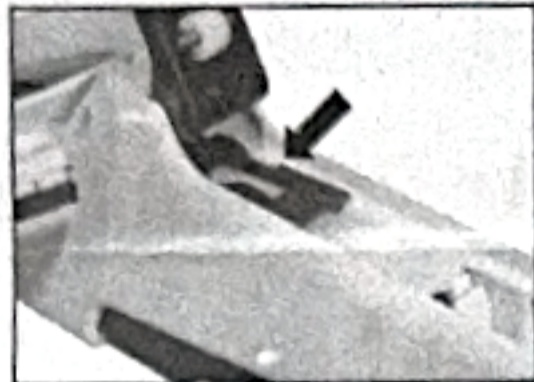

Figure 2
2. Before placing tape roll into tape compartment, pull several inches of tape out and feed it by hand into braille labeling guide (figure 2).